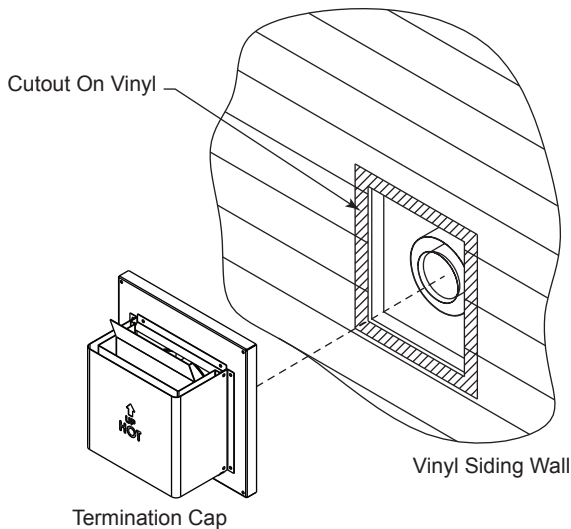

Figure 13 Horizontal Termination Cap on a Vinyl Siding Wall
6. If the house has vinyl siding, mark and cut the vinyl siding around the pipe so the termination cap can be mounted flush to the wall. Finish the siding edges with trim or "J channel" and caulking to prevent water from leaking into the building. *Figure 13*
7. Attach the termination cap to the exterior wall using the four (4) screws provided.